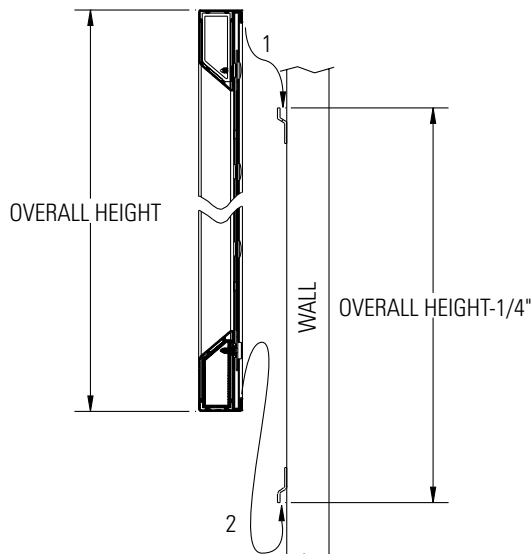

FIGURE 6
2. To install the lower wall bracket, you must measure the overall height of the screen frame and subtract 1/4". This is the dimension from the top of the upper wall bracket to the bottom of the lower wall bracket. See figure 6.
4. Position the screen with the attached surface onto the top wall bracket as shown in figure 6. Push down at the center of the bottom frame rail to hook onto the lower wall bracket.
1. Secure the wall brackets to wall studs at the desired height. Make sure the brackets are level. The top of the frame will be 1/8" above the top of the wall bracket when mounted. You will need at least 5/8" clearance above the bracket to hang the screen. Figure 6 and 7 show the proper orientation for the supplied wall brackets.
5. Position the screen with the attached surface onto the top wall bracket as shown in figure 6. Push down at the center of the bottom frame rail to hook onto the lower wall bracket.
3. Position the screen with the attached surface onto the top wall bracket as shown in figure 6. Push down at the center of the bottom frame rail to tension the fabric. Mark the screw holes for the bottom brackets. Drill holes in wall and attach the brackets to the wall with screws.